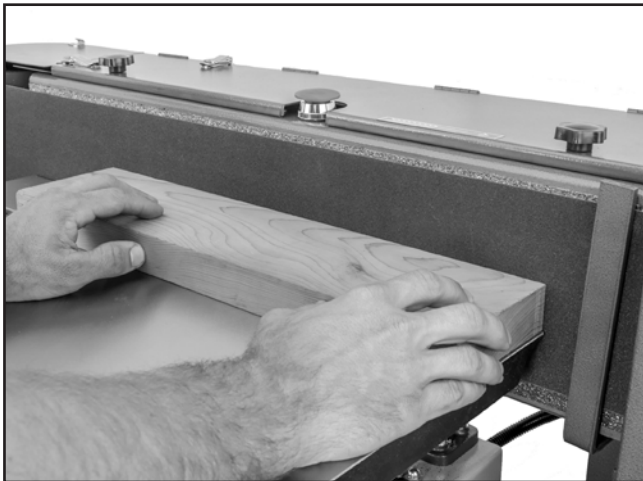

Figure 24. Typical edge sanding operation.
2. Support the workpiece against the back stop, and slowly feed workpiece into moving belt, as shown in **Figure 24**.